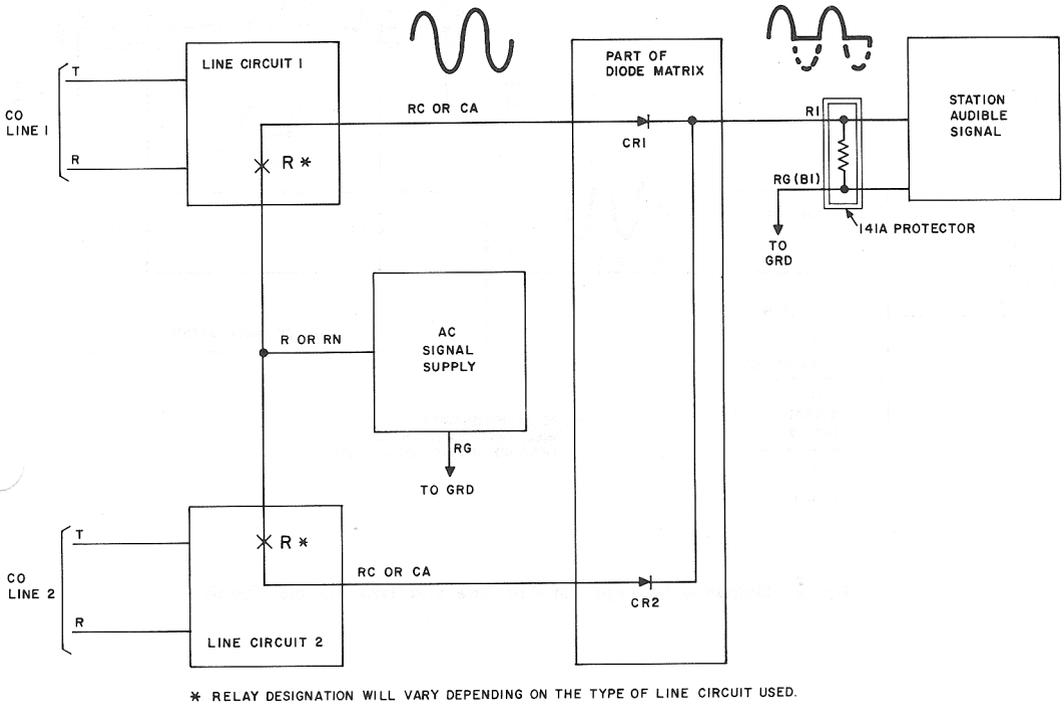

Fig. 1—Simplified Schematic of Two Lines and One Audible Signal
- 2.01** A simplified schematic of one audible signal operated from two lines is shown in Fig. 1. A call on line 1 operates relay R in line circuit 1 causing contact R to make. The ac signal is applied through diode CR1. Diode CR1 allows the positive components of the ac signal to operate the common audible signal. Diode CR2 isolates line circuit 2 from this signal. A call on line 2 will result in relay R in line circuit 2 operating and applying the ac signal via CR2.
- 2.02** If the station audible signal (Fig. 1) will be rung only from lines 1 and 2, and if these lines will not ring any other station, the diodes and diode matrix are not required.
4.02 The 141A protector is inserted between the B1 and R1 terminals in the station cut-down field (Blue Field) without affecting the cut-down multiple. See Fig. 1, 2, and 3.